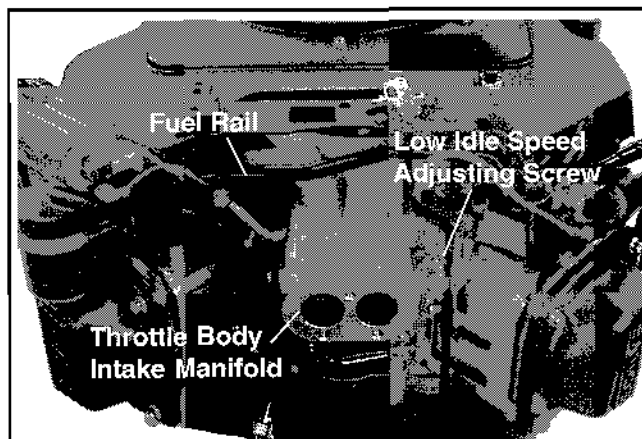

Figure 19. EFI Throttle Body Manifold.
3. Turn the low idle speed adjusting screw in or out and check RPM with a tachometer. See Figure 19.